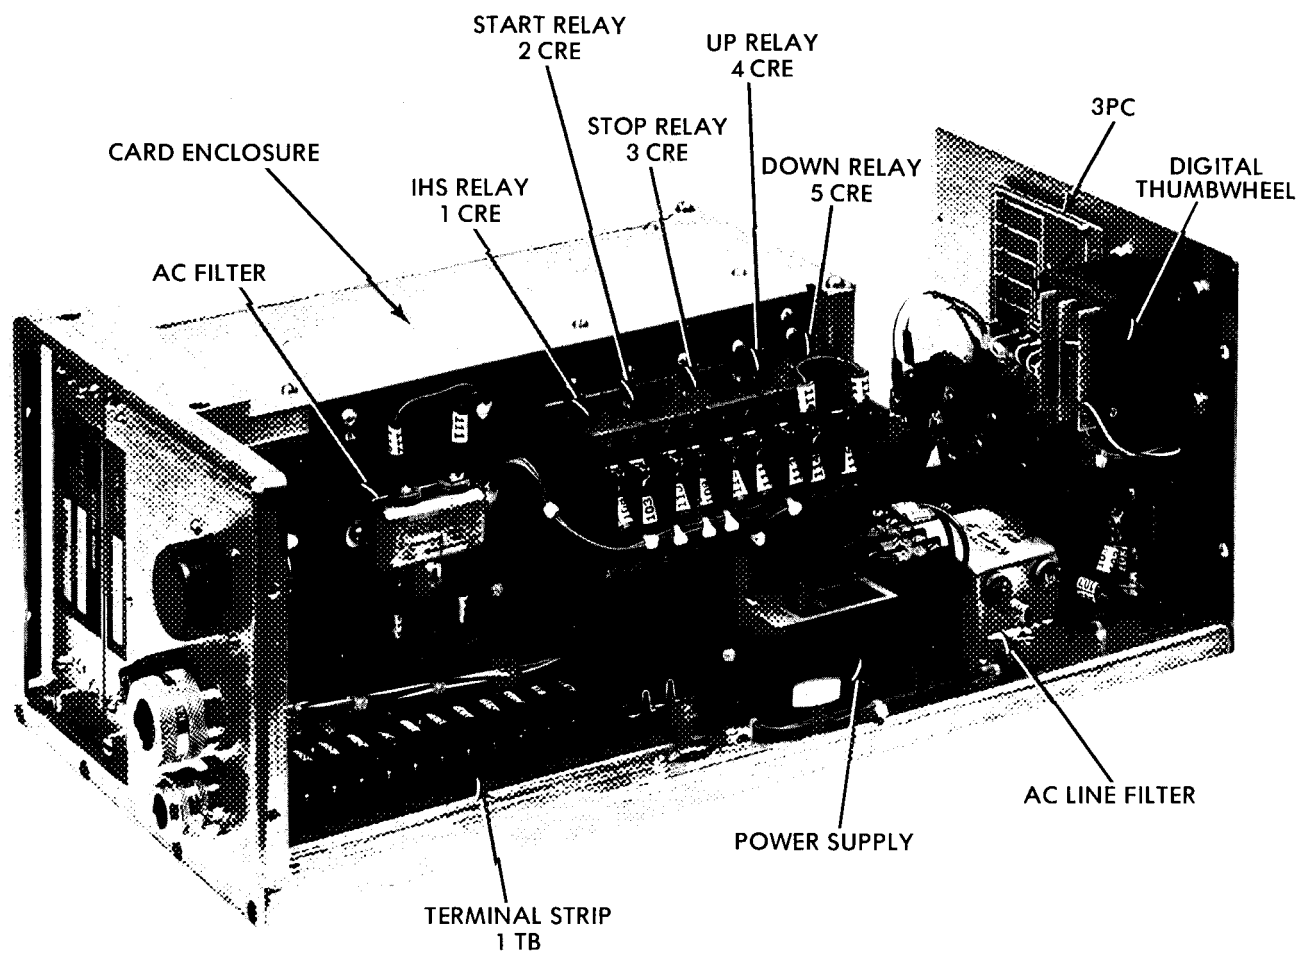

Figure 3.
- FIGURE 3 THC-1 INTERIOR VIEW